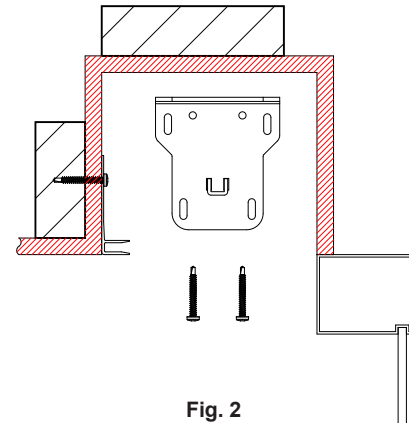

Fig. 2
- 2 For shades up to 120" in height, mount motor and idler bracket ¾" off back of pocket. (Fig. 2) For shades with greater height or with tubes bigger than 2 ½", increase this gap accordingly, ensuring Pocket dimensions are appropriately sized based on original project specifications.